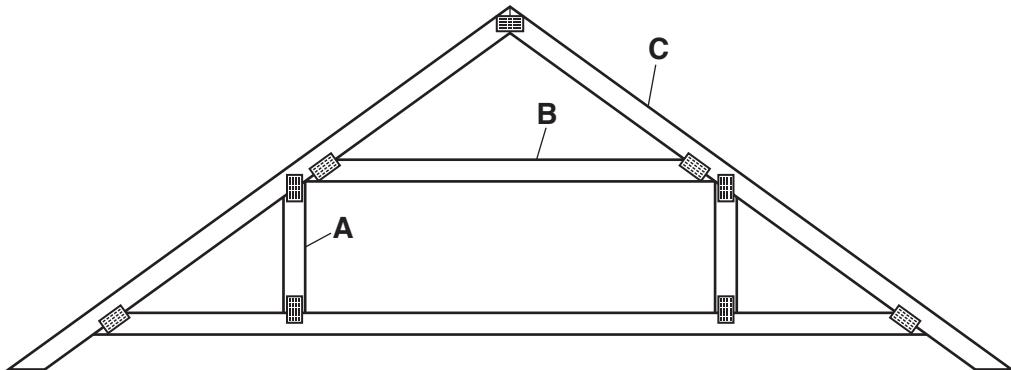

Fig. 5
- 10** Fig. 5 shows a roof truss.
- (a) Use the terms given below and information from Fig. 5 to complete the description.